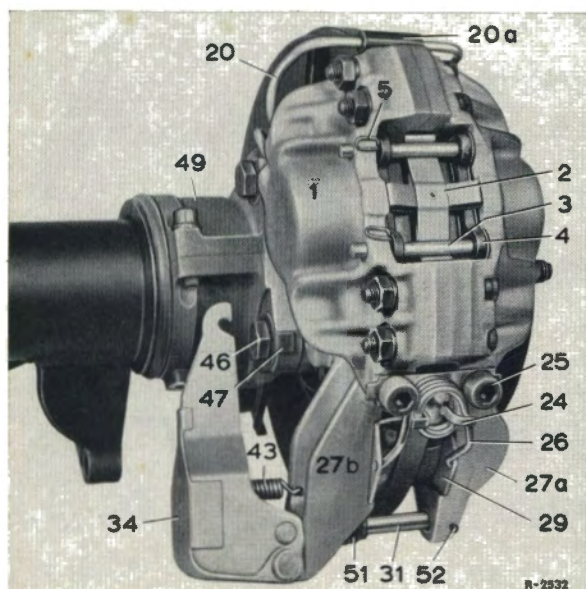

Fig. 42-7/23
3. Tap up the locking plates (47), unscrew the hexagon fitting screws (46), and remove the brackets (48) with the welded-on nuts (Figs. 42-7/23 and 42-7/24).